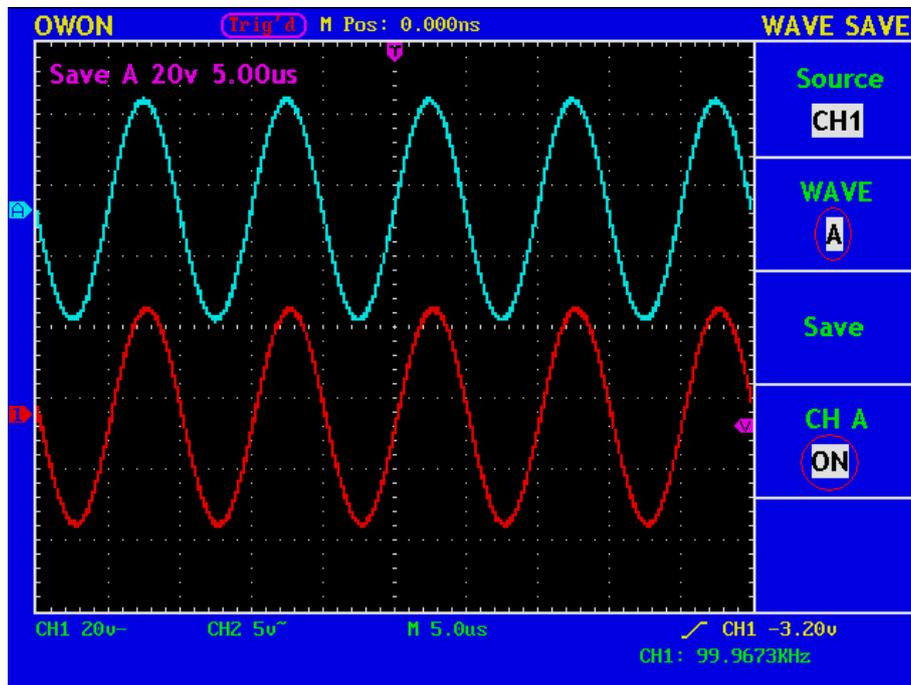

Fig. 63 Wave Saving
4. Press the **F4** menu selection button and choose **ON** for CH A. The stored wave form A will be displayed in the screen. The voltage level and time base level will also be shown at the upper left corner of the display area at the same time (see Fig.63).